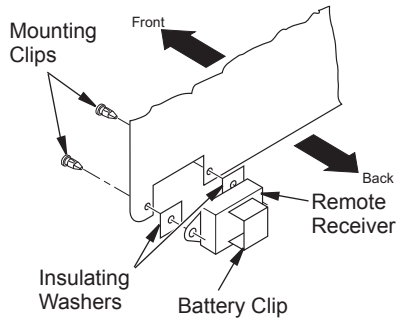

Figure 2 - Installing Remote Receiver
3. Install remote receiver unit onto gas log heater base using clips (2) and insulating washers provided.
4. Push clips firmly into place (see Figure 2).